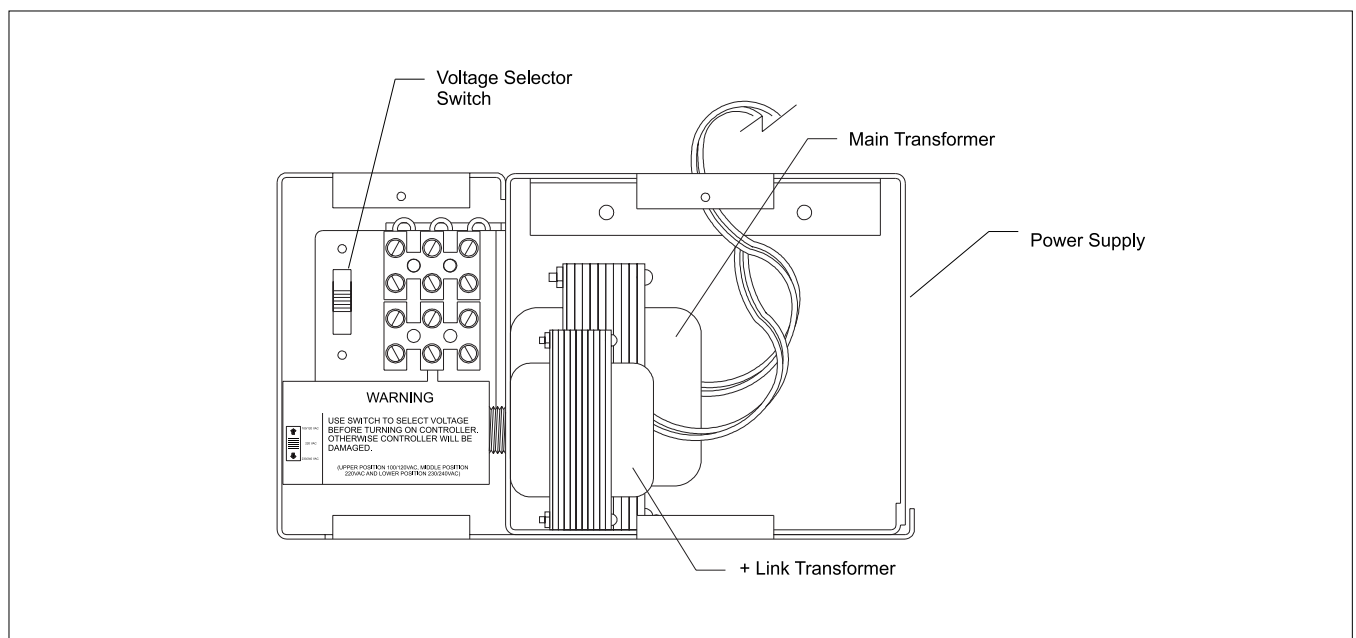

Figure 9: Location of +Link Transformer
2. Use four #4-40 machine screws to attach the MAXI 2-Wire module to the bottom of the control module, as shown in Figure 9.
Install the +LINK Power Transformer (P/N 633254) in the transformer wiring compartment in the space to the left of the main PAR+/MSC+ Power Transformer. (See Figure 9).